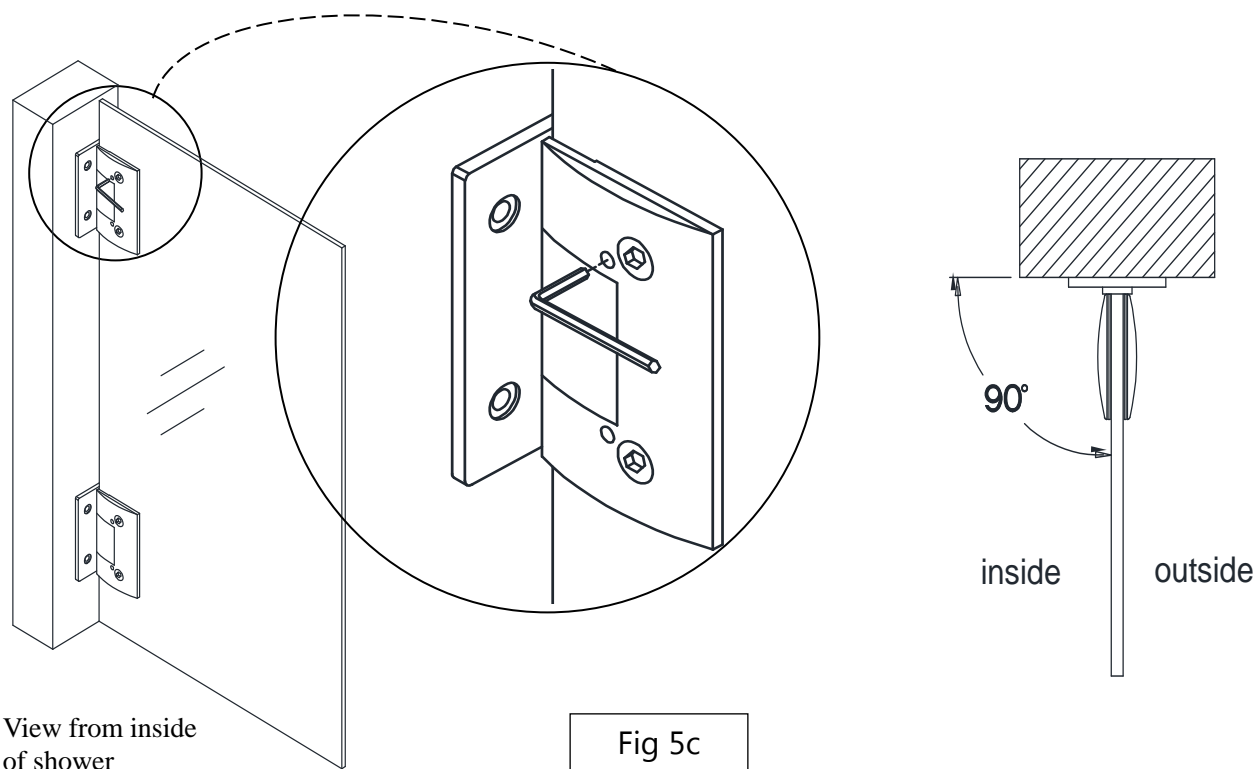

Fig 5c
**5c.** Use the supplied Allen Key to loosen the adjustment screws on the inside hinge plate, adjust the door to the desired angle (90 degrees for example) then retighten the adjustment screws **(Fig 5c)**. Be sure that you create a tight seal with the supplied strike vinyl when the door is in the closed position.